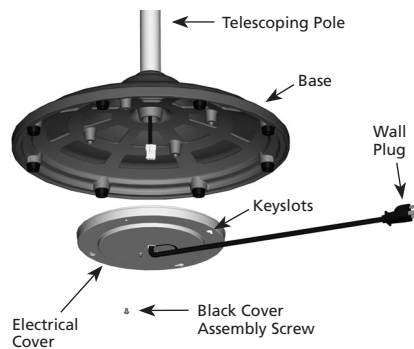

FIGURE 4
11. Place the electrical cover against the base and align the keyslots on the electrical cover with the three loosened black cover assembly screws. Rotate the electrical cover counterclockwise. See Figure 4.